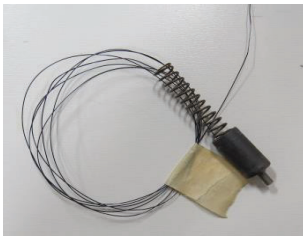

Figure 37: Coil the trigger, spring, and wire to be packaged for return to McNeilus Warranty.
7. Coil the trigger, spring, and wire to be packaged. Tape the coiled wire at one end to keep it in a bundle (Figure 37).